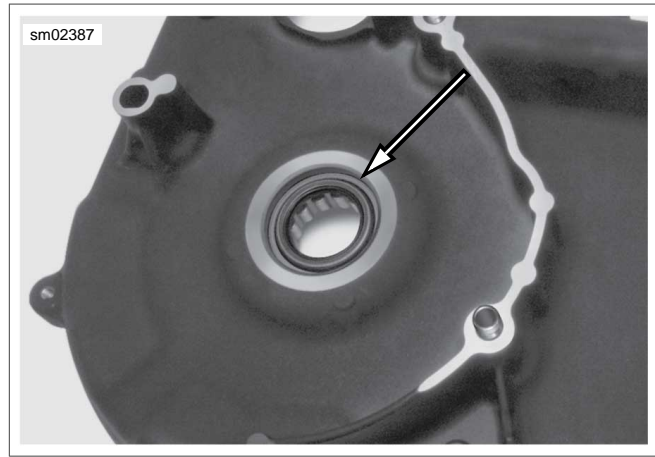

Figure 5-21. Oil Seal
- b. See Figure 5-21. With the lip garter spring side (stamped "oil side") facing toward the bearing, press squarely on the outer edge of oil seal until outer edge of seal is flush with machined surface of inner primary housing.